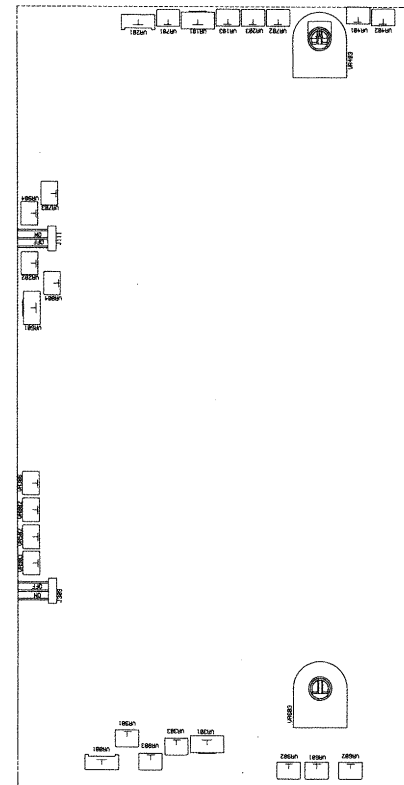

Fig. 6-1. Adjustment Location
(6) Dynamic Load Operation & Application
A. When select to the dynamic load position, the peak current available is 1.7 times the rated current. This feature is only intended for audio circuits of amplifiers and audio production lines. Change the position of wafers J111 of CH1 and J309 of CH2 from "OFF" to "ON". Please refer to Fig.6-1: Adjustment Location.
(7) Output ON/OFF Action
If readjustment is required, use the following procedure. The location of the adjustments is shown in Fig. 6-1.